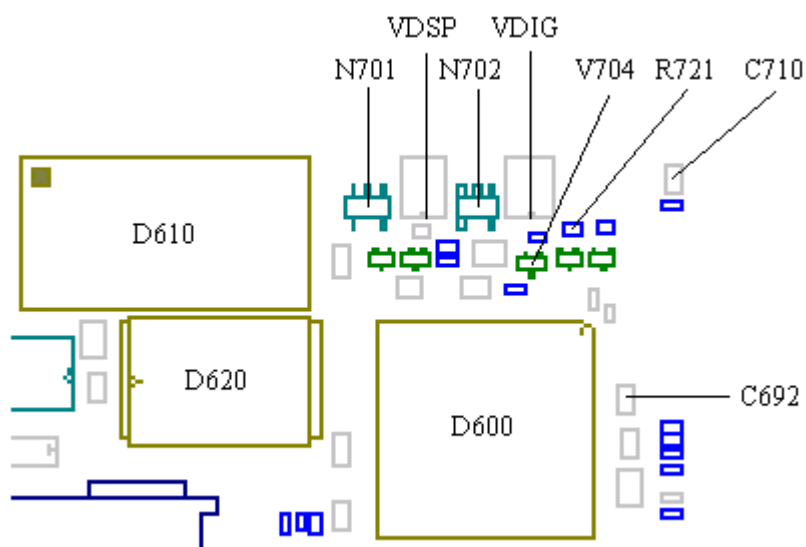

Fig. 3.2
Check for liquid damages anywhere at the board. Also check for burnt or damaged pads at the system connector and faulty soldering at, for instance, D600, D610 and D620 (fig. 3.2).
- * If the same phenomena arises without the On/Off-key being pressed it means that V704 is broken (fig. 3.2).
- * If the phone starts after programming it in the flash-programmer then the problem is probably solved, but to eliminate intermittent errors check the circuit board for liquid damage or faulty solderings on D600, D610 and D620 (fig. 3.2).
Check VDIG and VDSP voltages (~3.2 V, fig. 3.2).
Check the power reset voltage at C710 (fig. 3.2, >3V).
Check for bad solderings at D600, D610 and D620 (fig 3.2).
Check VDIG and VDSP (~3.2V, fig. 3.2).
Measure the voltage at C692 (~3.1V, fig. 3.2).